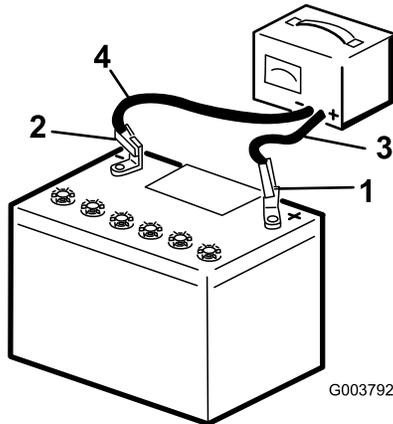

Figure 97
5. Connect the positive lead of the battery charger to the positive battery post (Figure 97).
6. Connect the negative lead of the battery charger to the negative-battery post (Figure 97).
8. When the battery is fully charged, unplug the charger from the electrical source, then disconnect the charger leads from the battery posts (Figure 97).